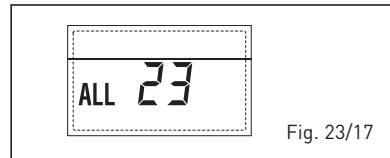

Fig. 23/17
– **SOLAR COLLECTOR SENSOR ANOMALY (S1) “ALL 24” (fig. 23/18)**